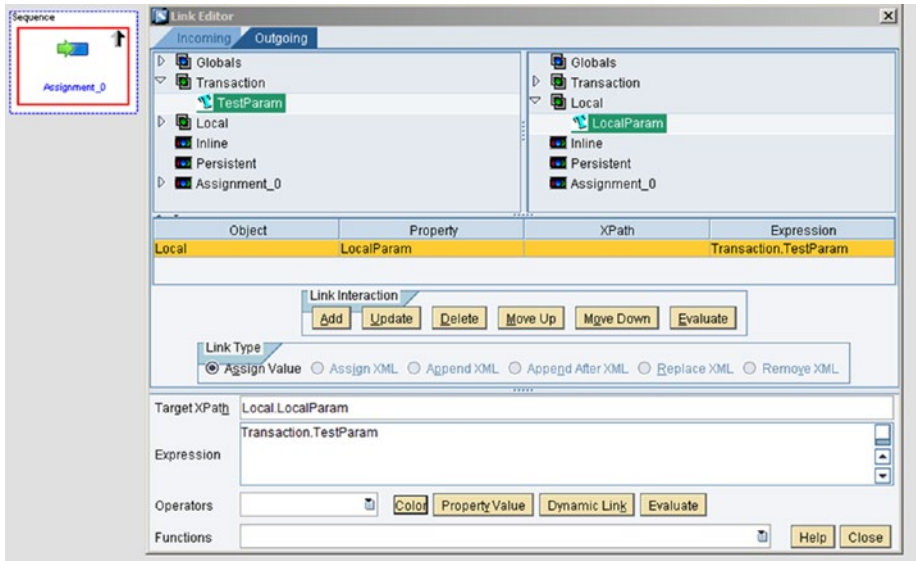

Figure 6-37. Assignment action block
- *Assignment action:* This action block is used to assign values to transaction properties. This action does not need to be configured nor need the input field to be filled up. Rather, you can assign a property in this action or include an editor operator or functions to modify them. See Figure 6-37.